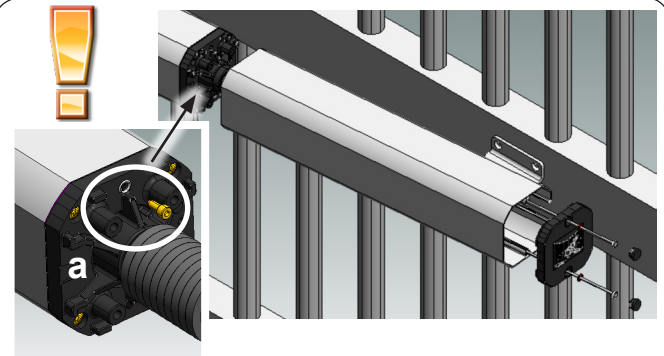

Fig. 16
16. Remove the bleed screw (Fig.16 Ref. a) paying special attention to leave the sealing O-Ring in its seat.
17. Install the metallic protection cover as shown in Fig. 16, insert and tighten both tie-rods.